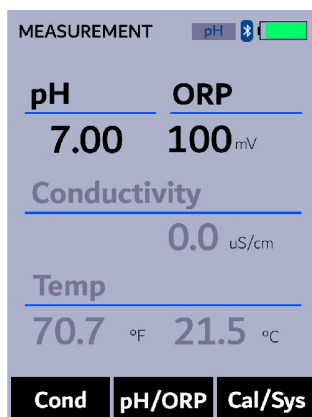

Figure 20. Display pH and ORP values
5. The pH and ORP values will be updated every two seconds on the SP-600 main module display. The values will be displayed in white with a **blue background** once a stable value is reached (Figure 20).